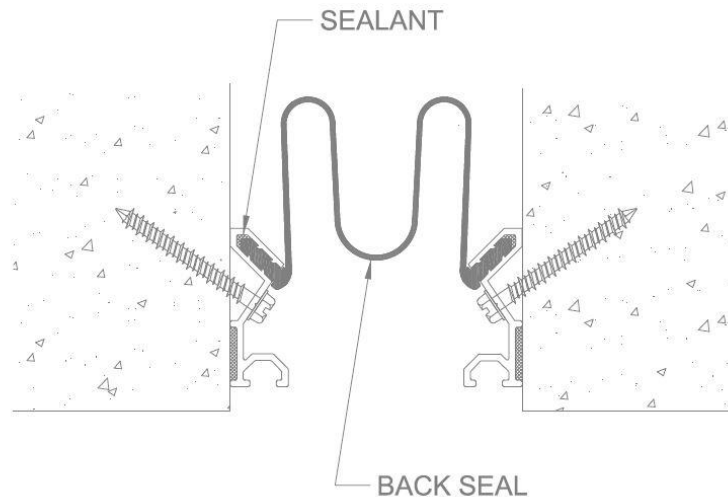

FIGURE 3
3. Apply a bead of sealant (by others) into the back channels of the extrusions. Install the back seal into these channels of the extrusion as shown. Make sure the bulbs of the back seal are firmly seated into the channels of the extrusion. **See Figure 3.**